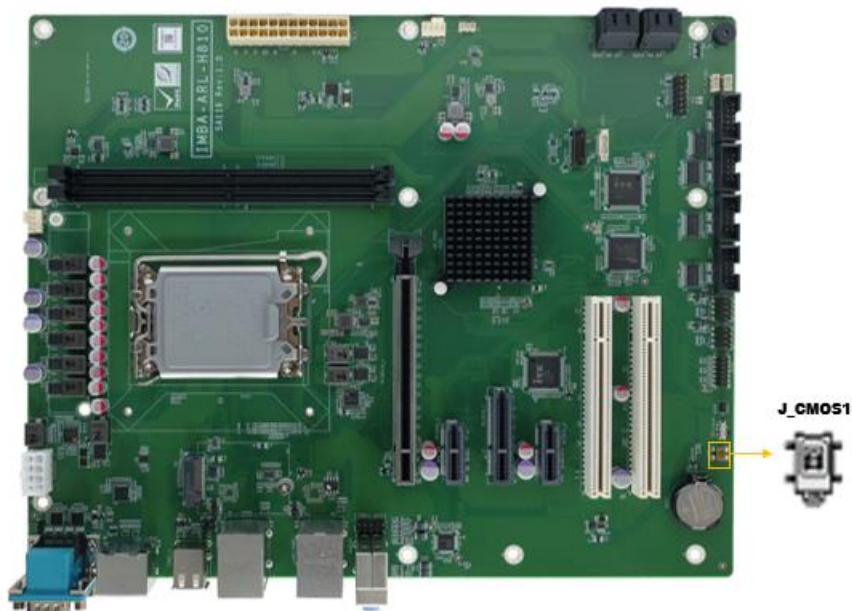

Figure 3-4: Clear CMOS Jumper Location
- CN Location:** See **Figure 3-4**